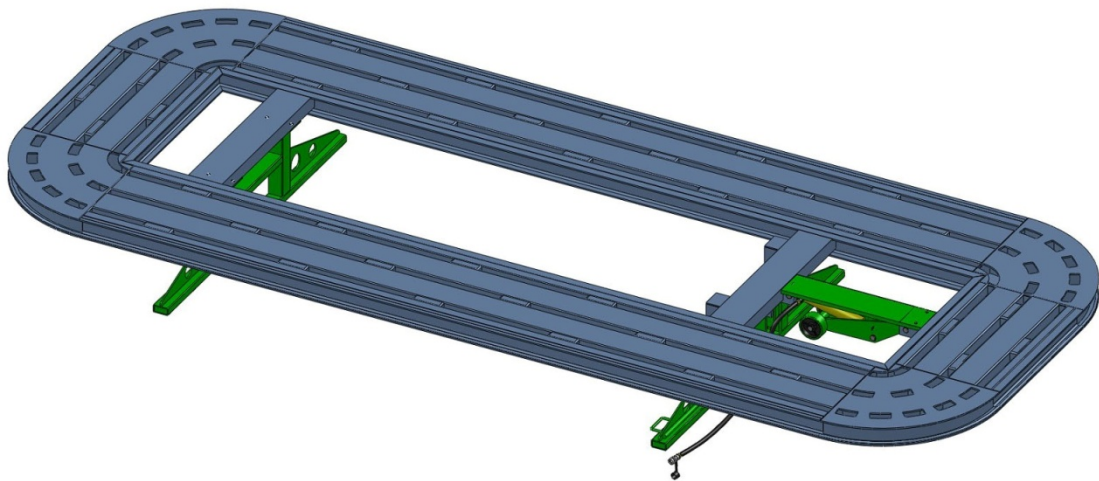

Figure 5.1
5.1 Auto supporting system: Including platform, fixed support, movable support, lift support. The auto supporting system is used to park the car on the platform, which is the operating table for damaged vehicles. See figure 5.1